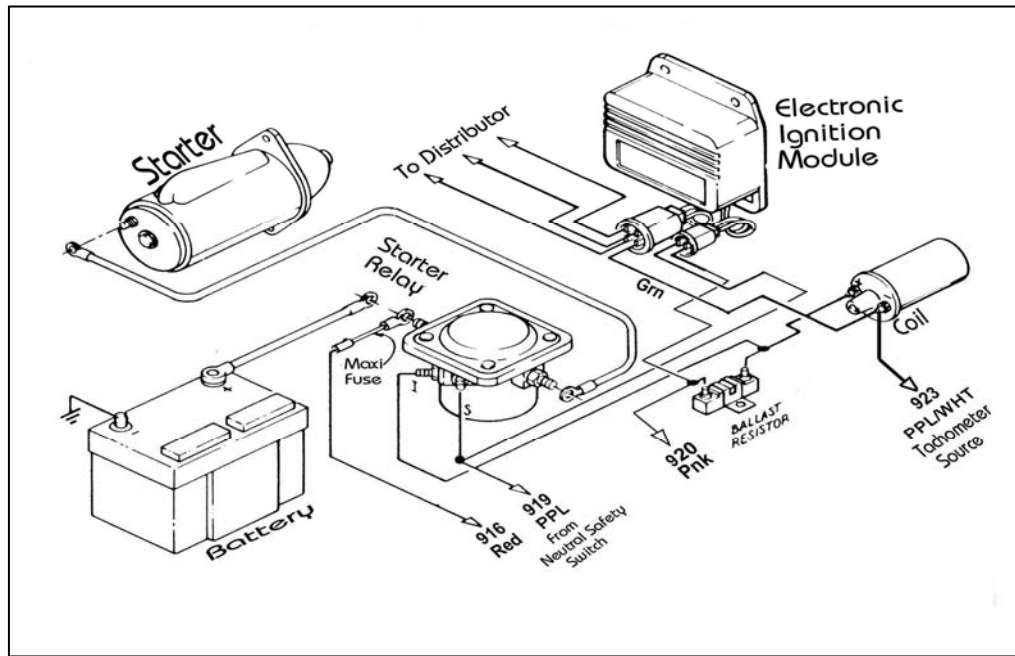

Figure 8.3 Motorcraft Electronic Ignition System
8.4.1 Connect the wires of the IGNITION SWITCH SECTION according to **Table 8-1**. **Figure 8-3** represents three (certainly not all) possible Ford ignition switch connector configurations and how they should be wired to the Painless steering column pigtail connector.